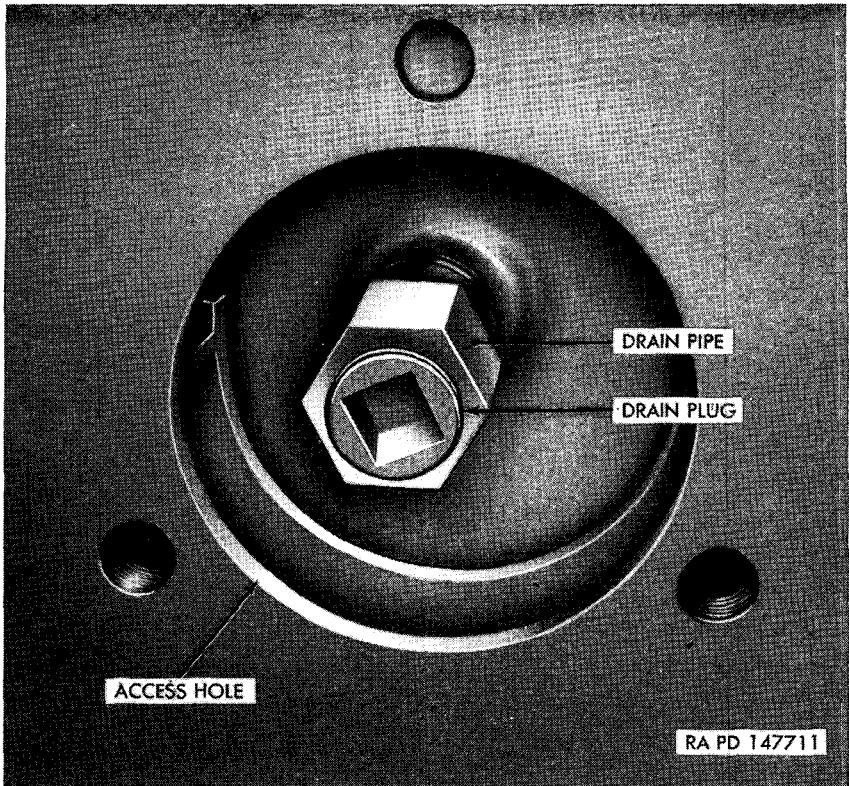

Figure 151. Fuel tank drain plug.
b. **DRAINING.** From below the vehicle, remove the fuel tank drain access hole covers (fig. 285). Provide suitable clean containers with a total capacity of 133 gallons for draining the left tank, and 100 gallons for the right tank. Position the containers under the drain opening and remove the drain plug (fig. 151). After draining, inspect the cover gasket. Install the drain plug, gasket, and access hole cover.
c. **REMOVAL.** Remove top deck (par. 158*b*). Remove power plant (par. 159). Drain fuel tanks (*b* above), and remove drain pipe (fig. 151). Remove fuel tank shut-off valves (par. 178).